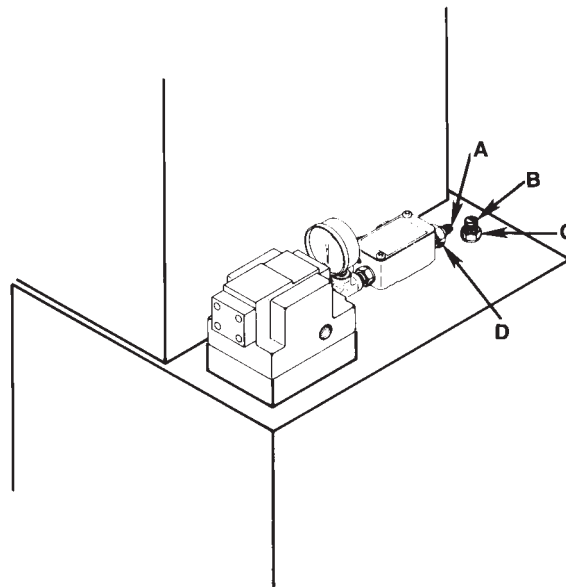

FIGURE 5
A. The pressure regulating valve and pressure switch are shown in Figure 5. The pressure regulating valve can be adjusted to bypass oil at a given pressure setting while the pump continues to run. The pressure switch can be adjusted to stop the pump at a given pressure setting. To ensure accuracy and low pressure differential (approx. 300 PSI) throughout the pressure range (1,000 to 10,000 PSI depending on the pump model), the pressure switch should be used with the pressure regulating valve. The pressure switch must be set at a pressure lower than the pressure regulating valve to work properly.
- A. Generally, the pressure switch should be used with the pressure regulating valve. A pressure switch can be used alone for operating electrical devices such as motors, solenoids, relays, etc., which are located elsewhere in the circuit. Refer to Figure 5.
- B. Loosen the locknut on the pressure switch (D), and turn adjusting screw (A) in a clockwise direction. This increases the pressure setting to a higher than desired pressure.
- D. With the pump running and bypassing oil at the desired pressure, slowly turn the pressure switch adjusting screw (A) in a counterclockwise direction, decreasing the pressure switch setting until the pump motor shuts off. Then lock the adjusting screw (A) in position by tightening the locknut.